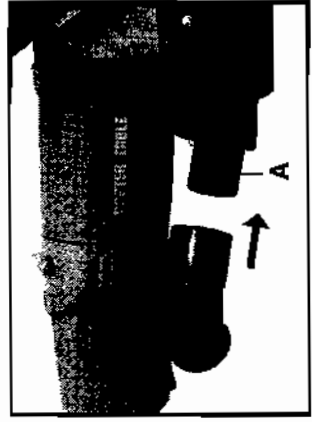

Fig. 17
The machine is equipped with a dust port (A) Fig. 17. A large volume of sawdust and chips will be exhausted from this port during machine operation. A directional dust nozzle and a dust bag are furnished with the machine. A standard 1" vacuum hose can also be connected to the dust port to facilitate dust collection.
The directional nozzle pushes onto the dust port (see Fig. 17). The nozzle can be rotated 360° to direct the dust and chips away from the operator.